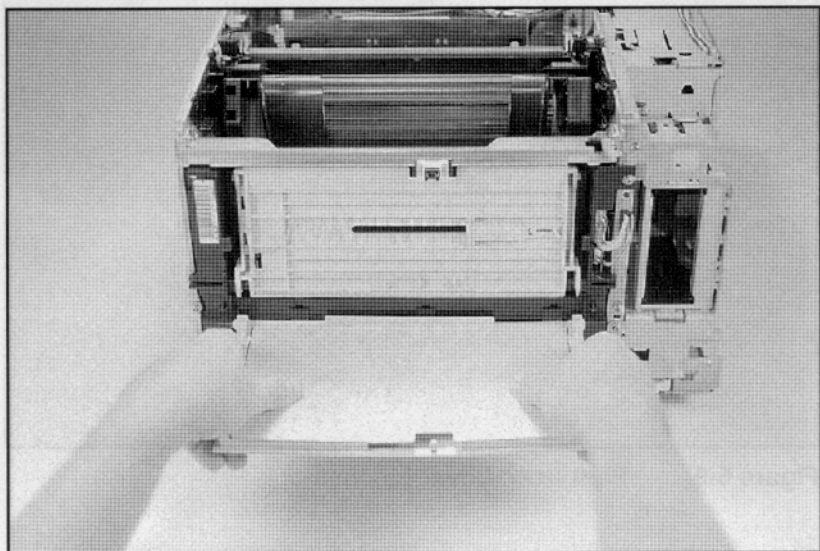

Figure 6-10 **Removing the MP Tray Door**
- 3** Bend the Door Slides out to release the tray from the door slides (see Figure 6-10). Place the inner door in the “up” position.
- 4** Flex the MP tray at the lower middle and release the door from its hinges (see Figure 6-10).